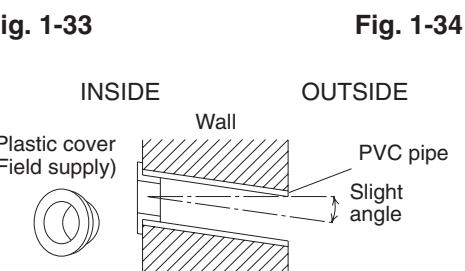

Fig. 1-35
- (6) Place the plastic cover over the end of the pipe (for indoor side only) and insert in the wall. (Fig. 1-35)